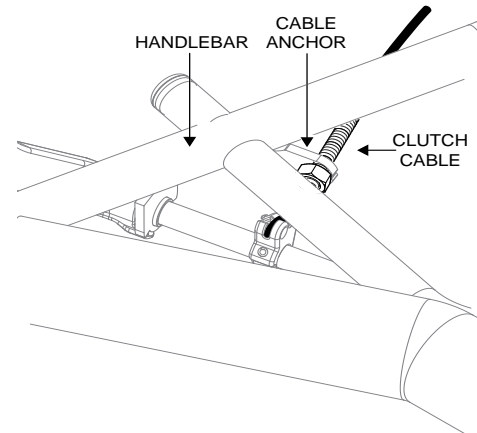

Figure 14. Handlebar Clutch Cable
2. Check that the clutch cable (Figure 14) is attached to the handlebar cable anchor..